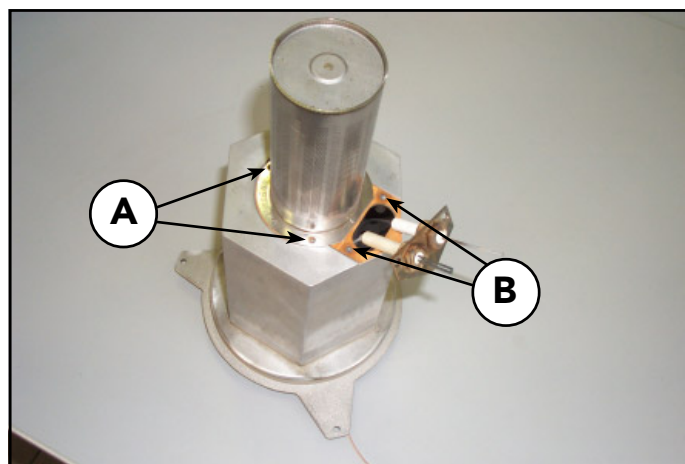

Fig. 26
- To change the burner, remove the three fastening screw "A" (fig. 26)
- To change electrodes, unscrew the two screws to the supporting plate and remove it. Undo the brass nuts, to electrodes "B" (fig. 26). Reassemble reverse order.